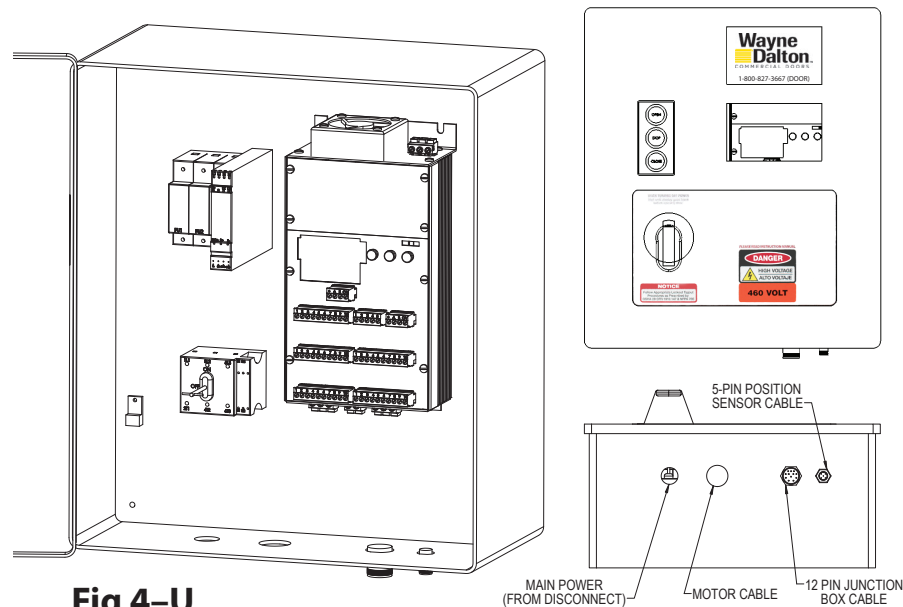

Fig 4-U
17. INSTALL SAFETY LABELS, Fig. 4-V